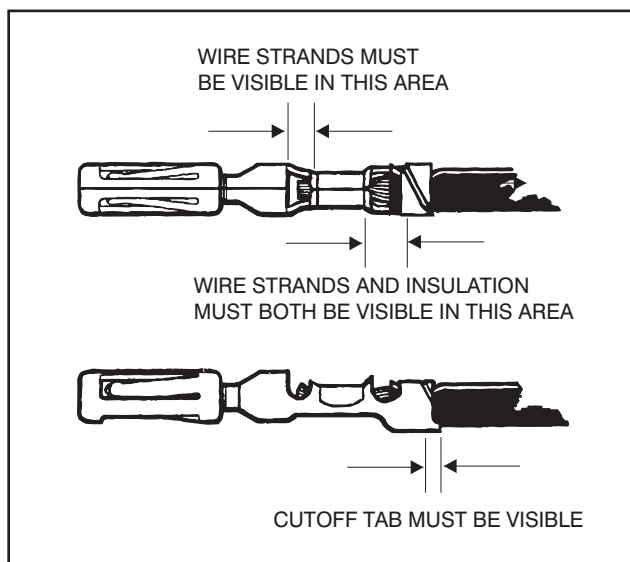

Figure 7-14. AMP Contact Assembly
1. Strip wire and install in crimp end of connector as shown in Figure 7-14.